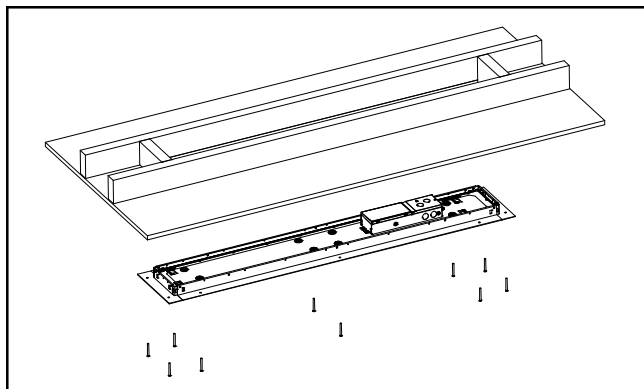

Figure 3.
3. Install frame with fixture into ceiling cutout and attach using included tamper proof screws. (Figure 3.)